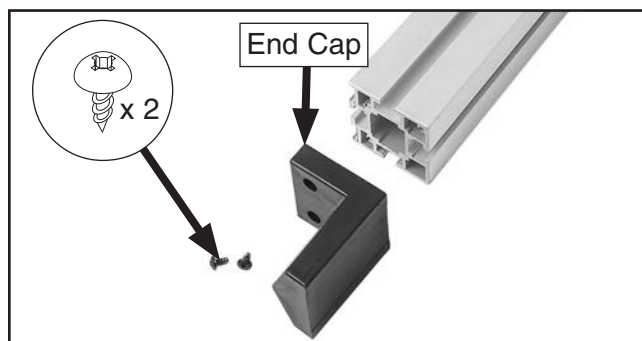

Figure 43. End cap removed from crosscut fence.
38. Remove tap screws and end cap from crosscut fence (see **Figure 43**).